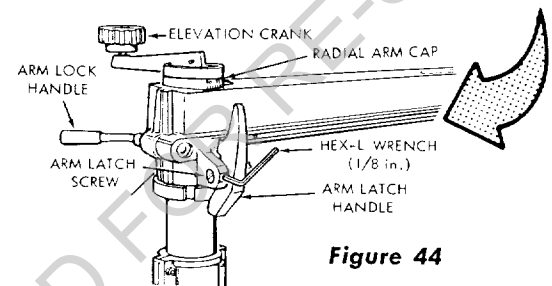

Figure 44
(1) Using a 1/8-inch hex-L wrench, loosen the two set screws that lock the arm latch screws. (See figure 44)
(4) If the saw blade moves away from the square as it comes forward loosen the front arm latch screw (figure 44) with a screwdriver and tighten the rear arm latch screw. Recheck blade travel and repeat if necessary.
(5) If the saw blade moves toward the square as it comes forward, loosen the rear arm latch screw and tighten the front arm latch screw. Recheck blade travel and repeat if necessary.
(6) When the adjustment is correct, both arm latch screws should be snug against the arm latch handle but not tight enough to bind the handle.
(7) Tighten the set screws to secure the arm latch screws. (See figure 44.)